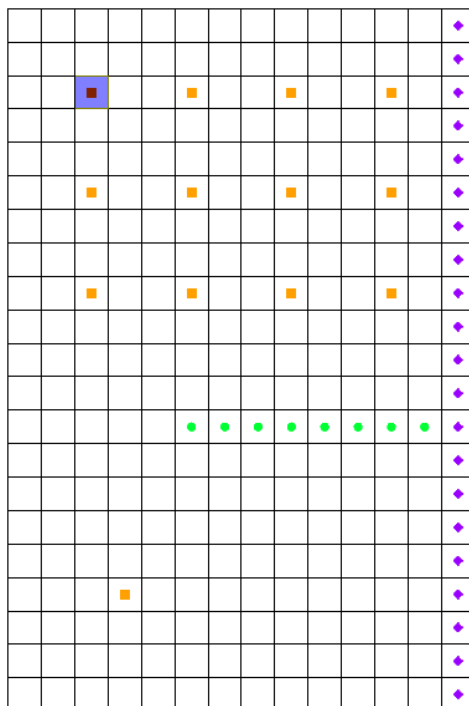

Figure 7 Selected MNW2 well cell
- Using the **Select Cells** tool, select the cell in row 3, column 3. This cell contains a well (highlighted in Figure 7).